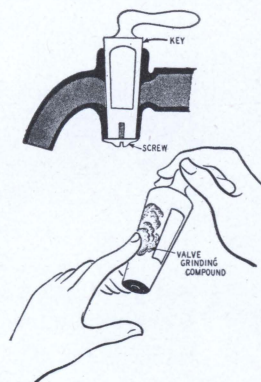

Fig. 62
3. Ground Key. Fig. 62.
## Repair of Ground Key Faucet Fig. 62
2. Remove large screw at bottom of faucet. Fig. 62.
3. Remove key from faucet body and place valve grinding compound over surface. Fig. 62. Insert key back in faucet body and turn back and forth until smooth surface is obtained.